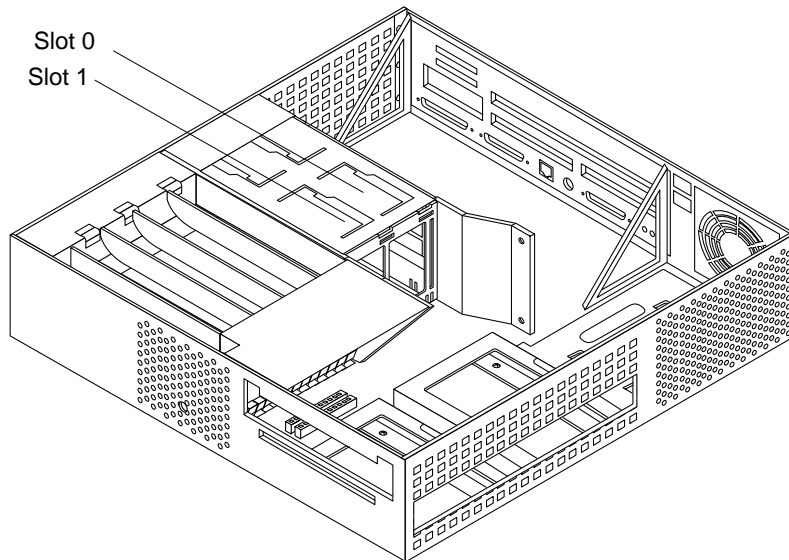

FIGURE 3-3 Ultra 2 Processor Slot Locations
3. **Identify the appropriate or available slot (FIGURE 3-3).**